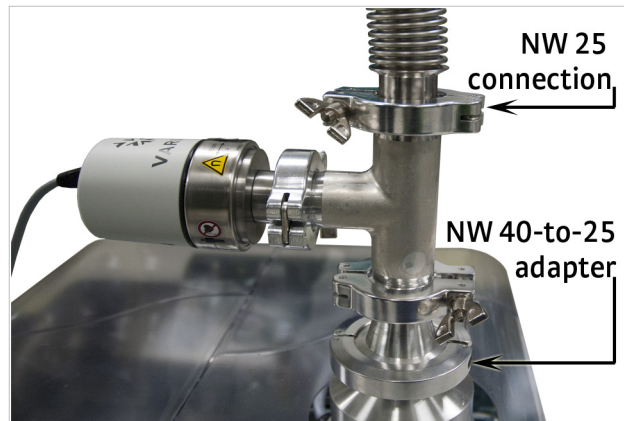

FIGURE 3-36 Install the vacuum line to the pump
1. If the vacuum gauge is not already installed on the turbo vacuum pump as shown in FIGURE 3-36, remove the protective cap from the pump.
3. Use the provided NW 25 tee, clamps and centering rings to attach the gauge as shown in FIGURE 3-36. Use steps a through e in this section as a guide.
4. Attach the supplied gauge cable to the connector (FIGURE 3-36). If not already done, attach the other end of the cable to the connector on the back of the turbo pumping system.